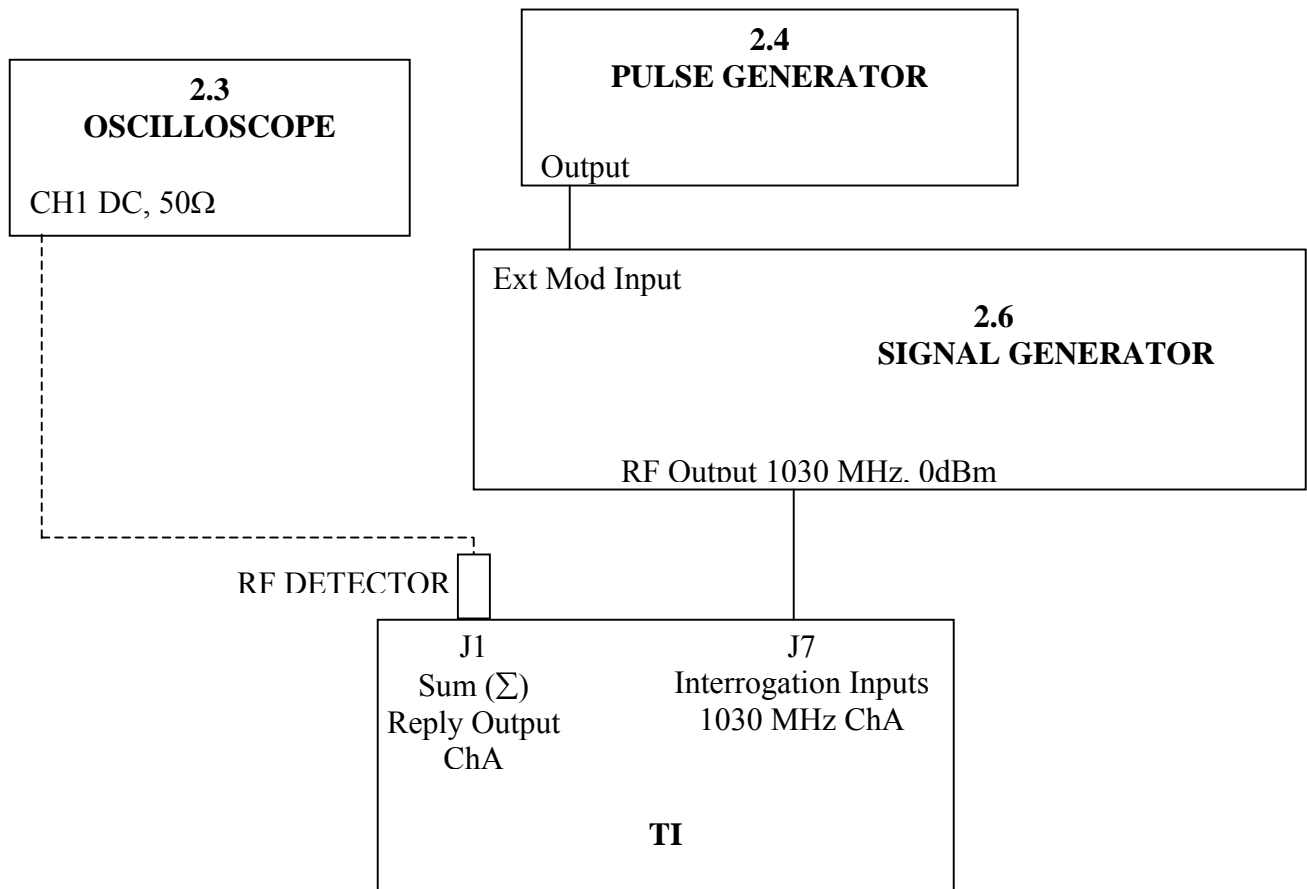

Figure 3 - Mode Detection and Reply Characteristics Test Configuration
- 4.4.1 Connect the equipment as shown in Figure 3
- 4.5.1 Table X shows nominal values for reply pulse characteristics. Using Figure 3 and Table X check Reply Pulse Characteristics on the oscilloscope for each interrogation mode. On the OCS, adjust the Sum RF Level to higher amplitude if necessary.